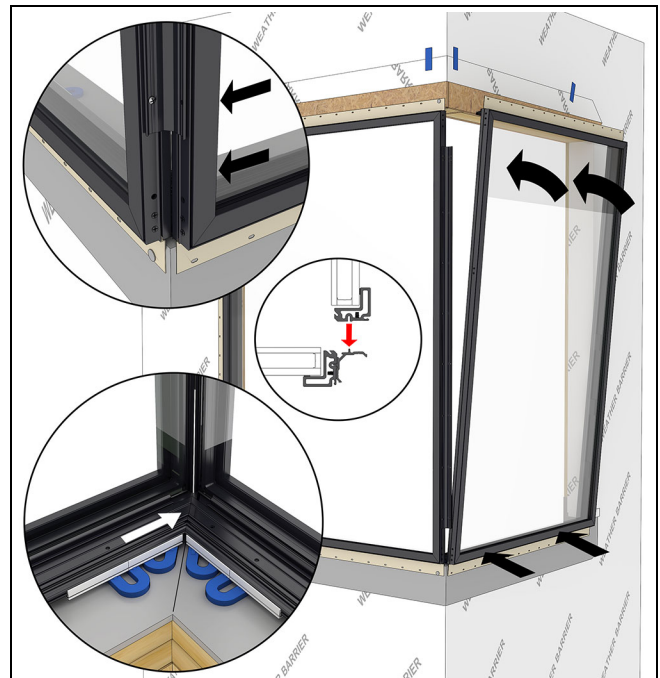

Figure 42
6. Set the right window into the RO and align the location feature on the bracket into the nail fin kerf of the other unit. See Figure 42.